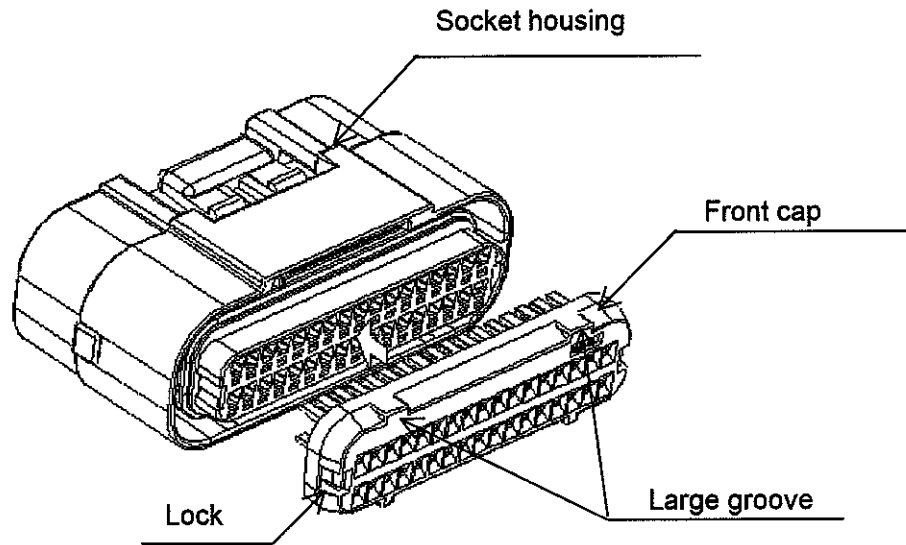
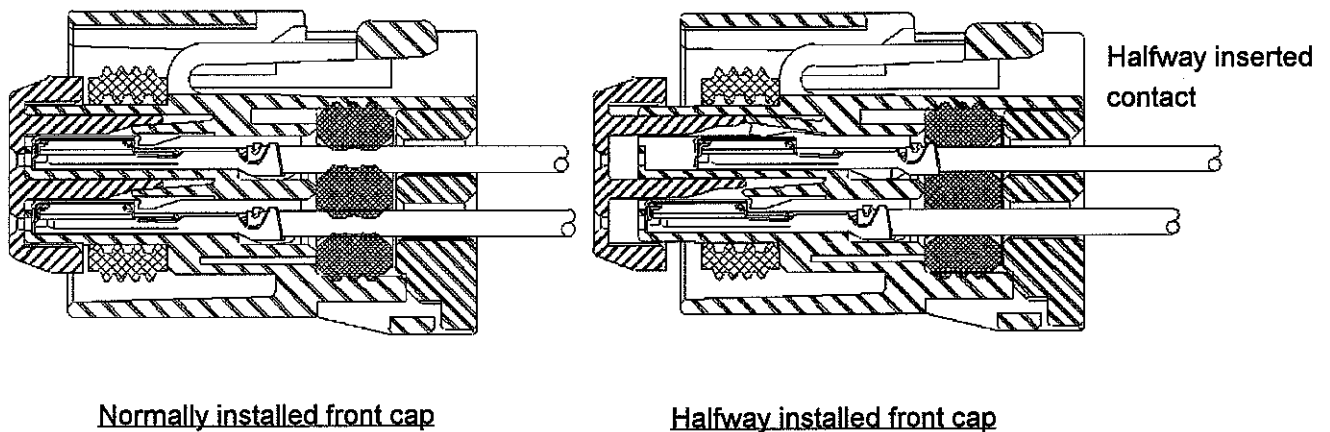

Fig.21 Front cap installation method
Fig.22 Front cap installation
Install a front cap after the contact insertion. Structurally, it is impossible to install the front cap after the contact insertion. Verify the vertical direction of the front cap during the front cap installation (Large groove; upside). When the front cap is assembled, put it in horizontally as shown in Fig. 21. If the front cap resists during the assembly, it may be due to the insufficient contact insertion shown in Fig. 22. Confirm that the contact is fully inserted. If it isn't fully inserted, insert it fully pursuant to item 4.1 "Contact insertion method". After the front cap is inserted all the way to the end, visually verify that the locks on both sides are on or lightly pull out the front cap (approx 10N to 20N) to see that the locks are activated.